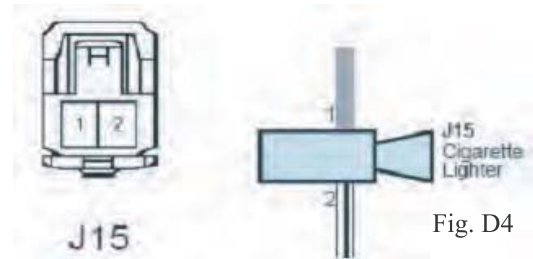

Fig. D4
3. Attach harness to power. (Fig. D4)